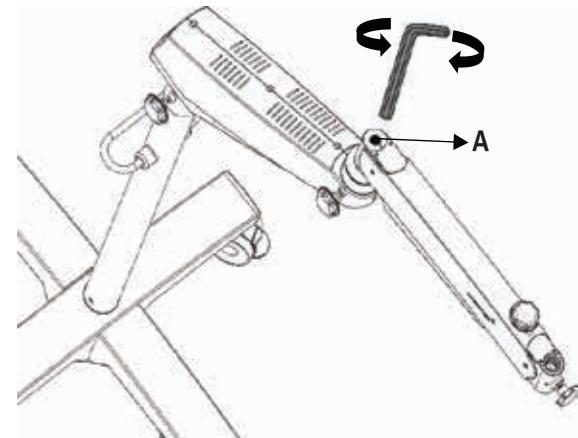

Fig. 23
- Refer Fig.23 Use an 8mm allen wrench in bolt (A) . Rotate it clockwise to increase the tension as desired. Rotate it counter-clockwise to decrease the tension as desired.